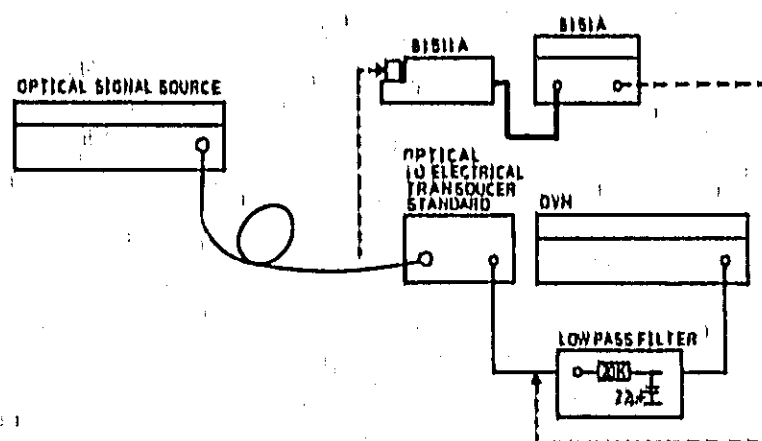

Figure 4-12. Test setup for Transducer Conversion Factor tests
6. Connect the Optical Signal Source, via the Transducer Standard, to the DVM, as shown in Figure 4-12. Select the built-in filter function of the DVM, or use an external lowpass filter as shown in Figure 4-12.